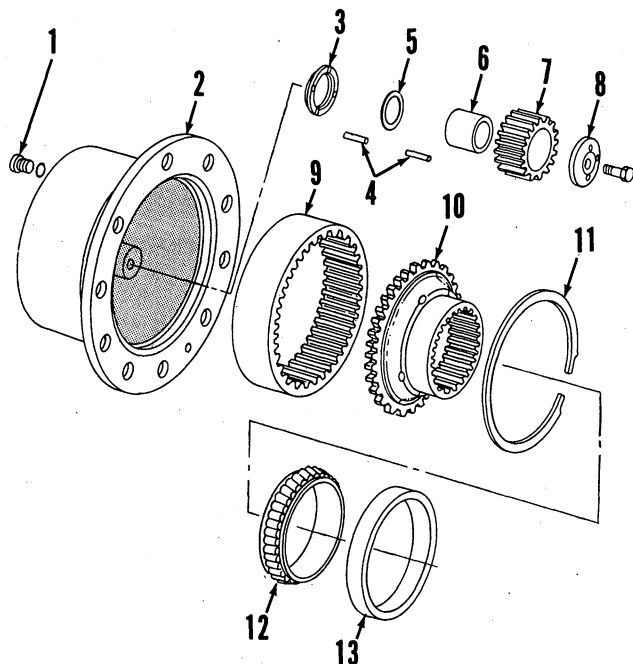

Fig. 272—Exploded view of front-wheel drive axle planetary assembly.
252. R&R AND OVERHAUL. To remove planetary assembly, first raise and support front axle using suitable stands. Remove front wheel. Remove drain plug and drain oil from planetary housing. Remove the two cap screws from rear of wheel hub that retain planetary carrier to wheel hub. Support planetary carrier with a hoist, then pry carrier from wheel hub using pry slots provided in carrier. To remove planetary ring gear (9—Fig. 272), pry snap ring (11) from rear of ring gear and remove ring gear from ring gear hub (10).
Inspect all parts for scoring, wear or other damage and renew as necessary. If planet gear needle bearings (4—Fig. 272) are being renewed, press bearing inner race (6) onto carrier shaft until flush with top of shaft.